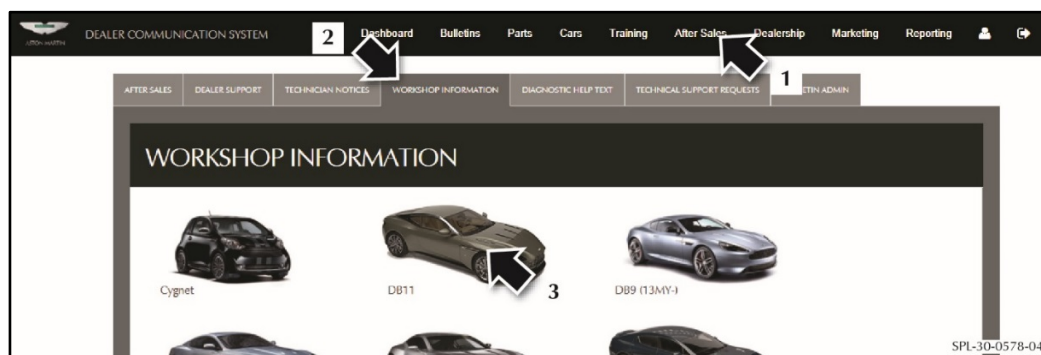

Figure 1
In the DCS portal, we have added a new tab in the After Sales (1) area. Click on the “WORKSHOP INFORMATION” tab (2) and then click to select DB11 (3) (refer to Figure 1).